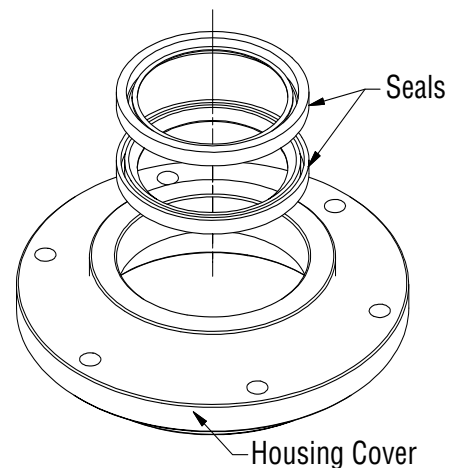

Figure 5-37, Pinion Shaft Seals
9. The oil seals may now be serviced. Note the orientation of the seals. (Figure 5-37)